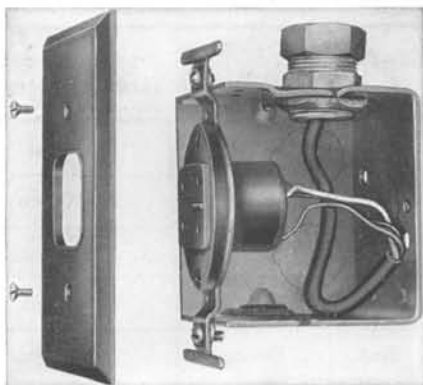

FIG. 14—497A JACK MOUNTED IN OUTLET BOX
10.01 The 391A and 497A jacks may be flush-mounted in outlet boxes or in baseboards and panels. Figs. 14 through 17 show these mounting arrangements.
10.02 The 497A jack in outlet box (shown in Fig. 14) is mounted as follows:
2. Connect station wire to block, and dress as shown in Fig. 14.